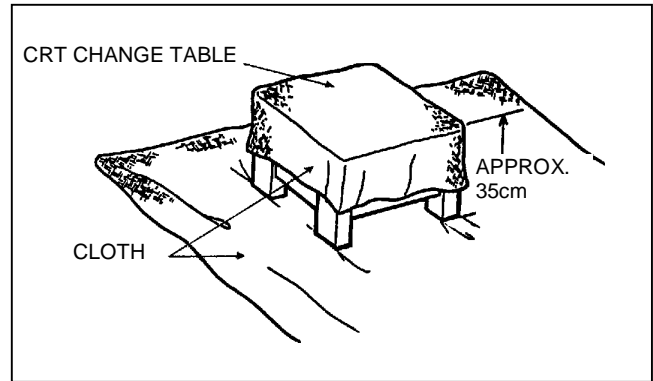

Fig. 3
1. Prepare the CRT change table, the CRT change table should also be covered with such soft cloth as shown in Fig.3.
2. While keeping the CRT down surface, mount the TV set on the CRT change table as shown in Fig.3.